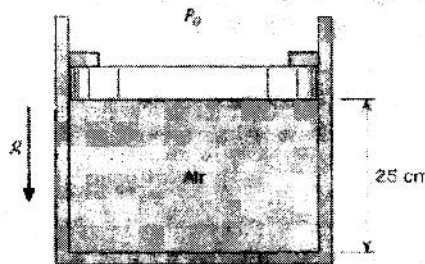

FIGURE P3.111
- b) A piston/cylinder arrangement, shown in Fig. P3.111, contains air at 250 kPa and 300°C. The 50-kg piston has a diameter of 0.1 m and initially pushes against the stops. The atmosphere is at 100 Kpa and 20°C. The cylinder now cools as heat is transferred to the ambient surroundings. At what temperature does the piston begin to move down? How far the piston drops when the temperature reaches the ambient? 15